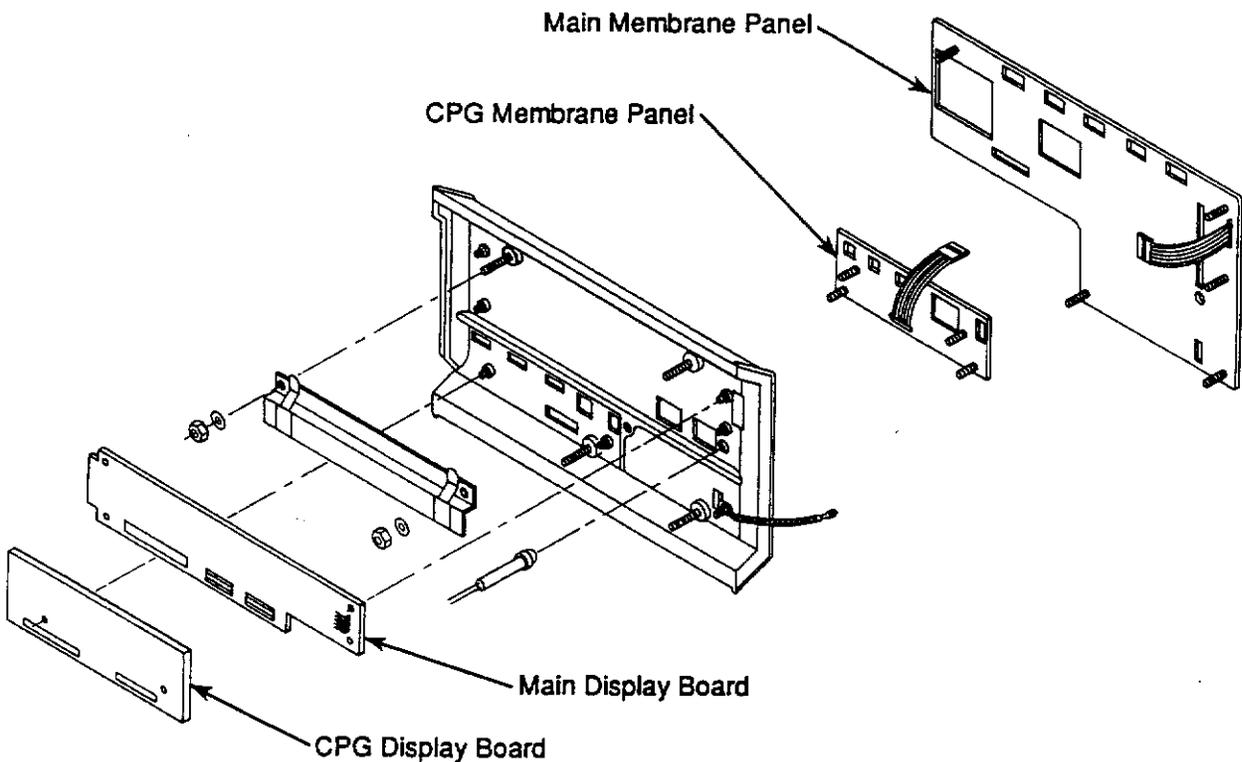

Figure 3-6. Main Display
3.13 Main Display Board (See figure 3-6.)
3.14 Cardioplegia (CPG) Display Board (See figure 3-6.)
3.15 Main Membrane Panel/Cardioplegia Membrane Panel (See figure 3-6.)